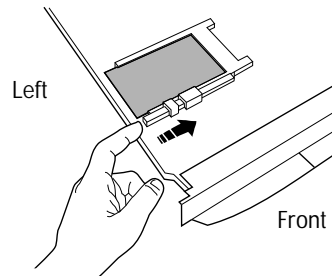

Figure 5. Ejecting Flash Card
2. Press in on the lockshaft on the flash card housing, as shown in figure 5. The flash card should eject until its left end is flush with the routing engine.